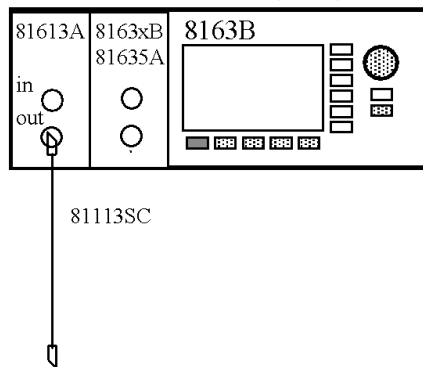

Figure 8 Return Loss Measurement Setup
- 9** Disconnect the 81610CC Reference Cable from the setup and connect a 81113SC user cable to the Return Loss Module and leave the other end open as shown in Figure 8.